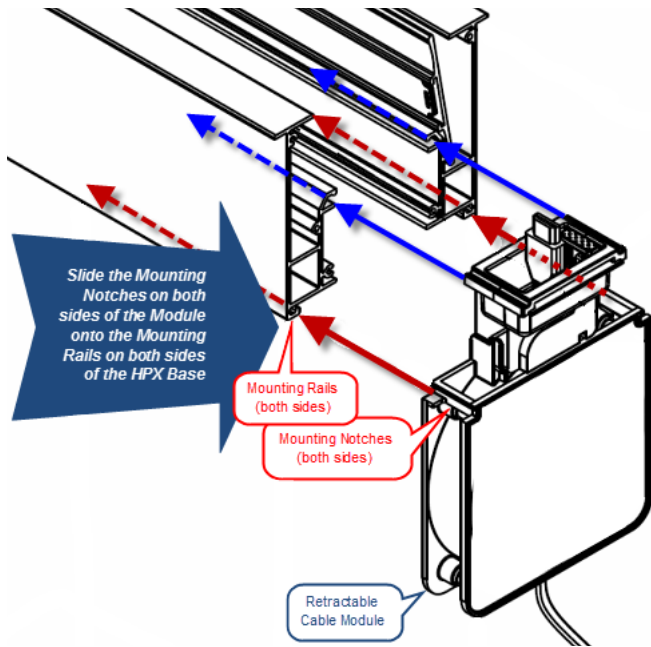

FIG. 5 Retractable Cable Module - Mounting into an HPX Base Assembly
1. Orient the module relative to the HPX base assembly so that the Module's faceplate is facing up, towards the mounting surface (FIG. 5).